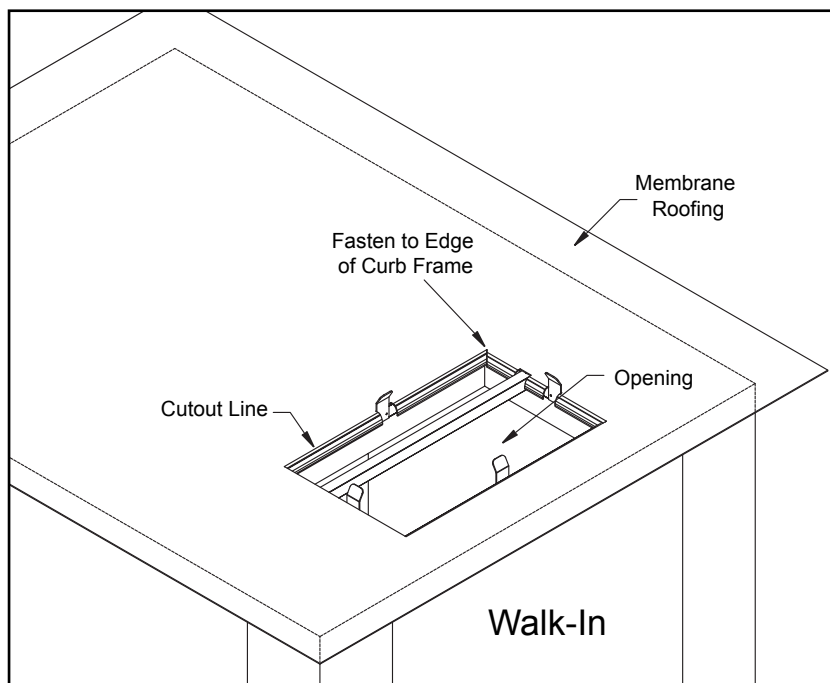

Figure 2
3. Lay the membrane roofing material over the walk-in ceiling sections and curb leaving a six inch overhang on all four sides of the walk-in. Using an utility knife, cut a hole in the membrane roof approximately 1-1/2" in from the edge of the opening. (The resulting hole in the membrane will be smaller than the ceiling opening). Fold the 1-1/2" membrane flaps into the opening, notching the membrane around the locators and divider. Use either sheet metal screws, caulk, glue, etc. to fasten the membrane roofing material to the inside edge of the curb frame. Refer to Figure 2. Do not make any penetrations in the top of the membrane roof. Any needed penetrations should be through the side wall to maintain the integrity of the roof.